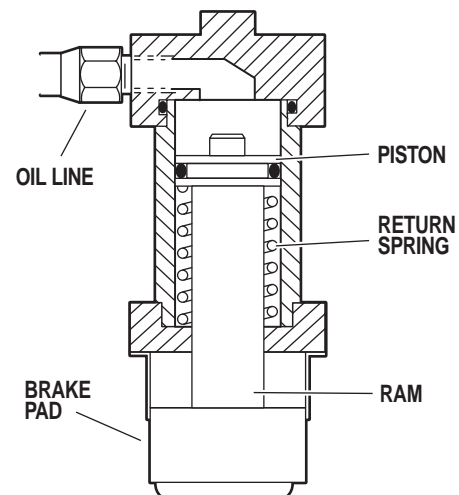

Figure 1-16. Single Action Brake Cylinder
6. Brake Cylinders - The brake cylinders are single action type similar to the elevation cylinder. The movable piston's ram is connected to a brake pad. See figure 1-16. Oil pumped into the top of the cylinder pushes the piston down raising the table base off its casters. An internal return spring on the bottom of the piston, pushes the piston up to return the oil through the mini-valve to the reservoir.